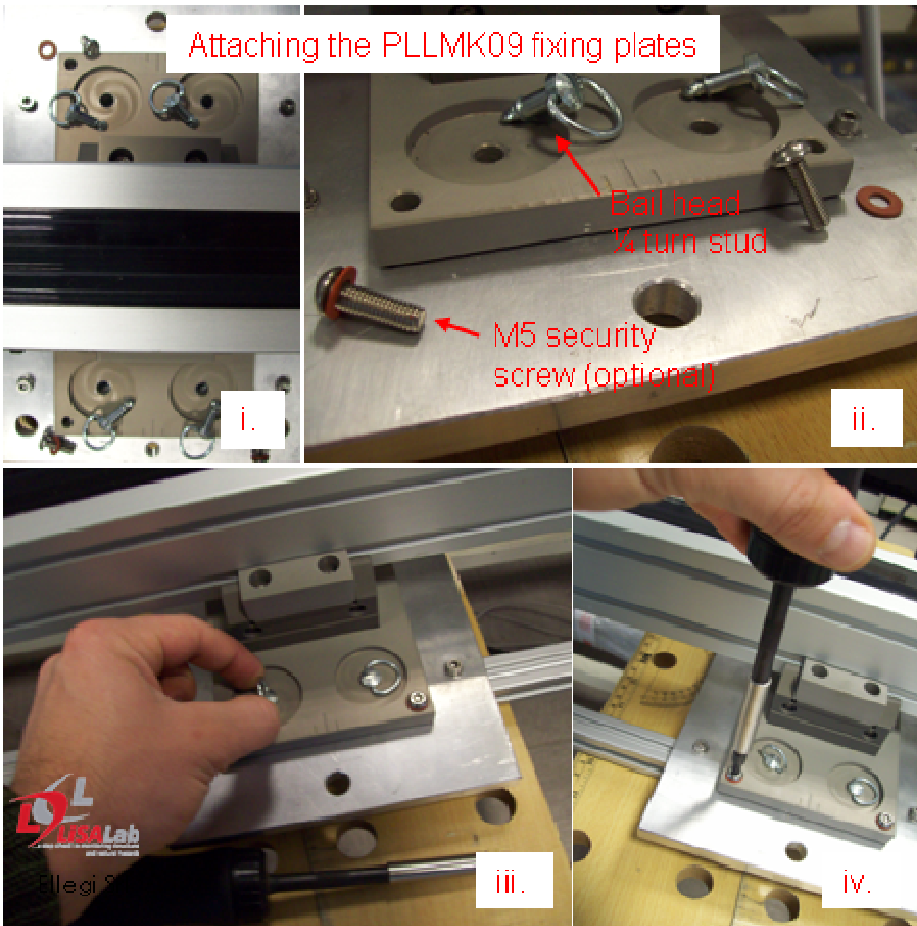

Figure 8: Step 2 of the installation procedure. Attaching the PLLM fixing plates to the counterplates.
- 2. Attach each fixing plate to its counterplate inserting four bail head ¼ turn studs in the fixing plate customized holes (Figure 8). Optionally also four M5 security screws can be inserted in each fixing plate (always install the security screws with their o-rings).